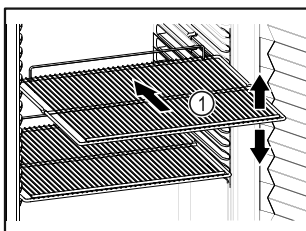

Fig. 50 Example illustration
- ❑ If storage surfaces Fig. 50 (1) are movable, adjust them according to height.